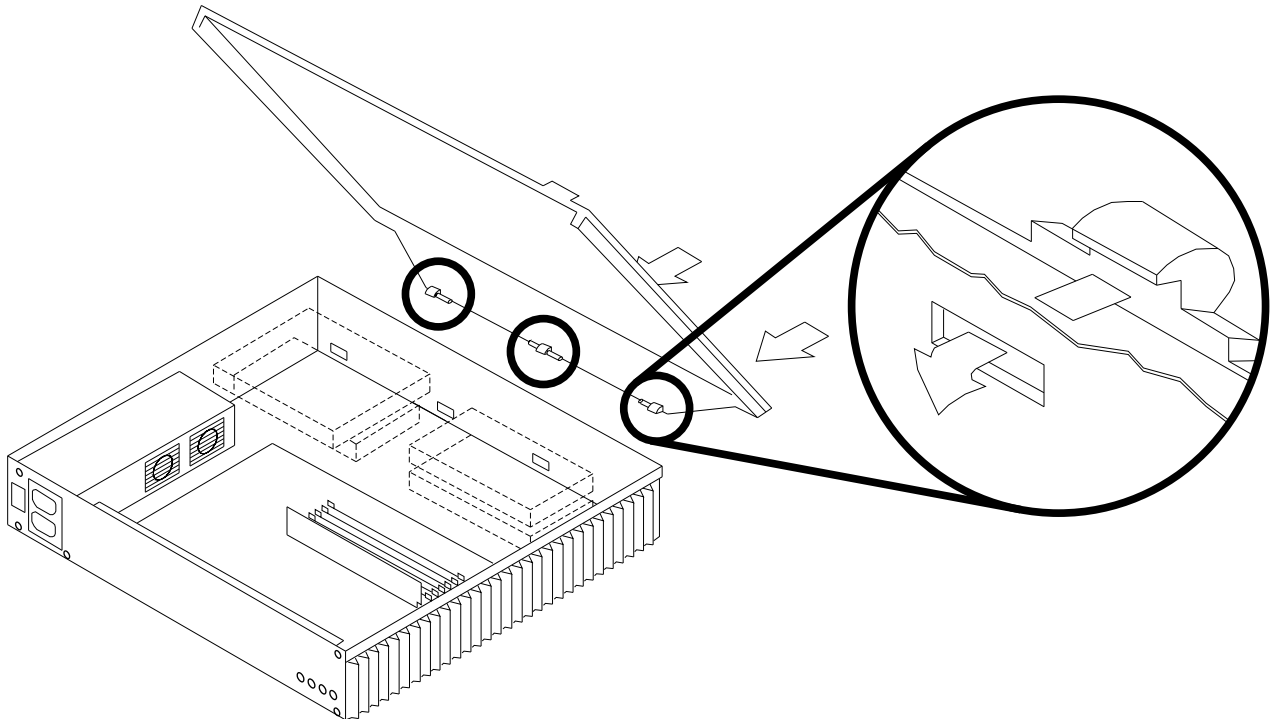
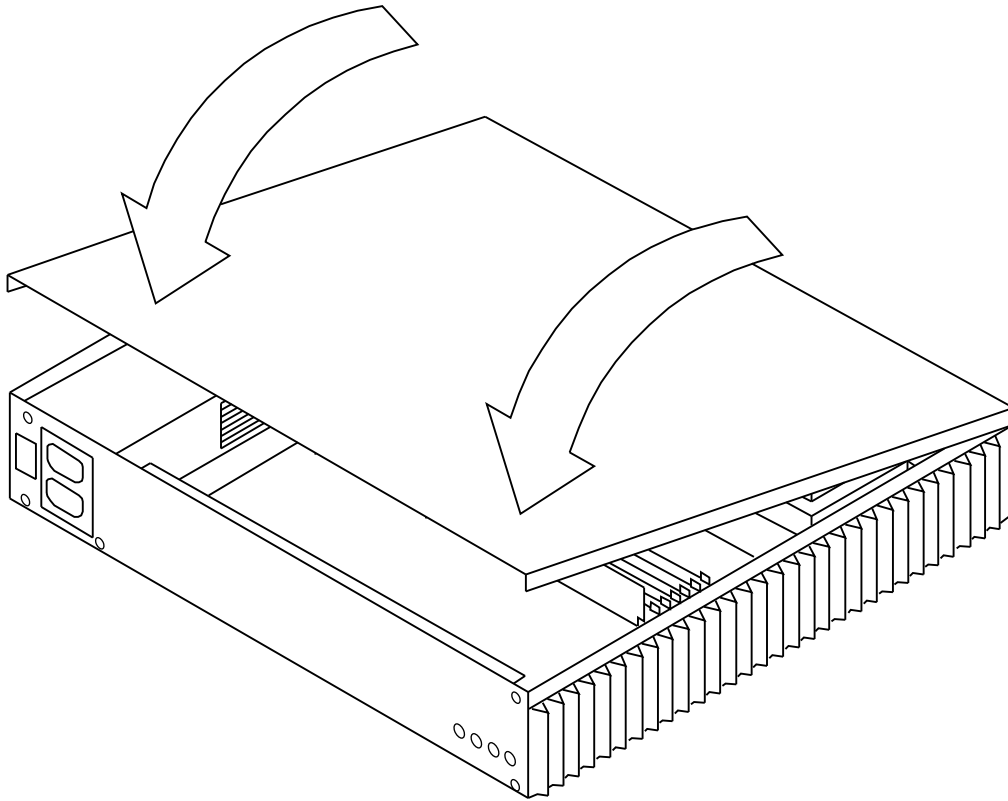

Figure D-36: Aligning System-Cover Tabs on the *Sun SPARCserver* Computer
Figure D-37: Replacing the Cover on the *Sun SPARCserver* Computer
To close your *Sun SPARCserver* computer, do the following (see Figure D-36 and Figure D-37):
2. Gently guide the cover's hinge hooks into the tab slots located on the front of the system unit (see Figure D-36).